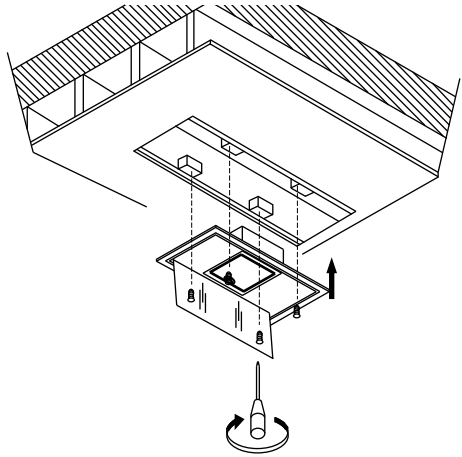

Fig 5
3. Fix the hood into the ceiling (Fig 5).